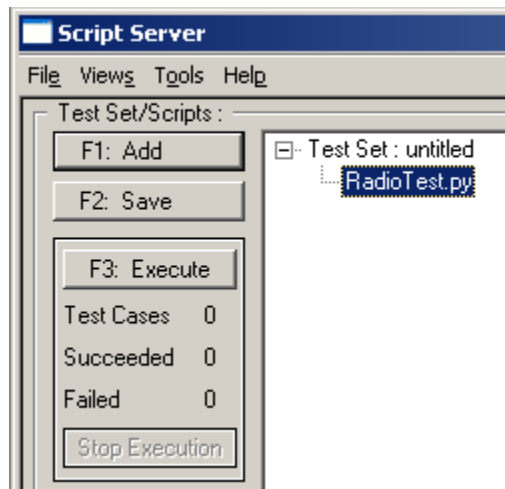

Figure 23 Script Server Window (Run Scripts/Test Sets)
4. As shown in Figure 23, from the “Script Server” window, highlight the “RadioTest.py” file and click on the “F3: Execute” button to start the selected Scripts/Test Set.